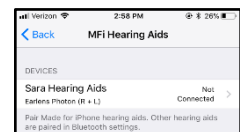

Figure 11
4. Once the hearing aids are discovered, the First Name + Hearing Aid and R+L* will display (Figure 11).